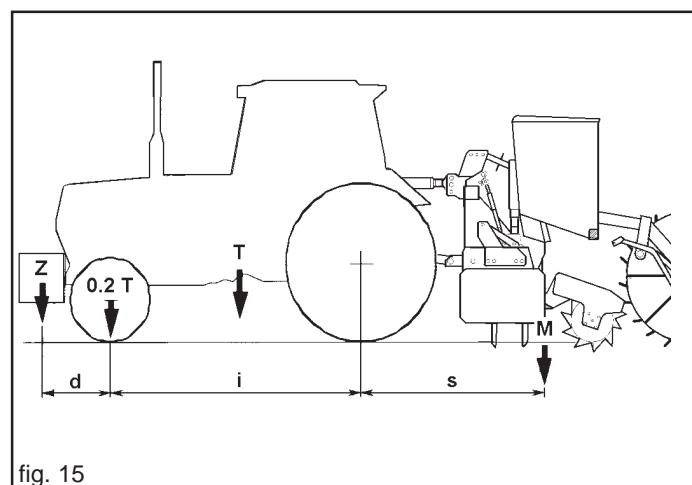

fig. 16
The gear shift is located on the left side of the Seeder and receives motion from the drive gear. From the gear you can change the speed of the seed-distributor groups, by acting on the adjustment index (A), set on a scale of 1 to 50 in a continue way (Fig. 16).